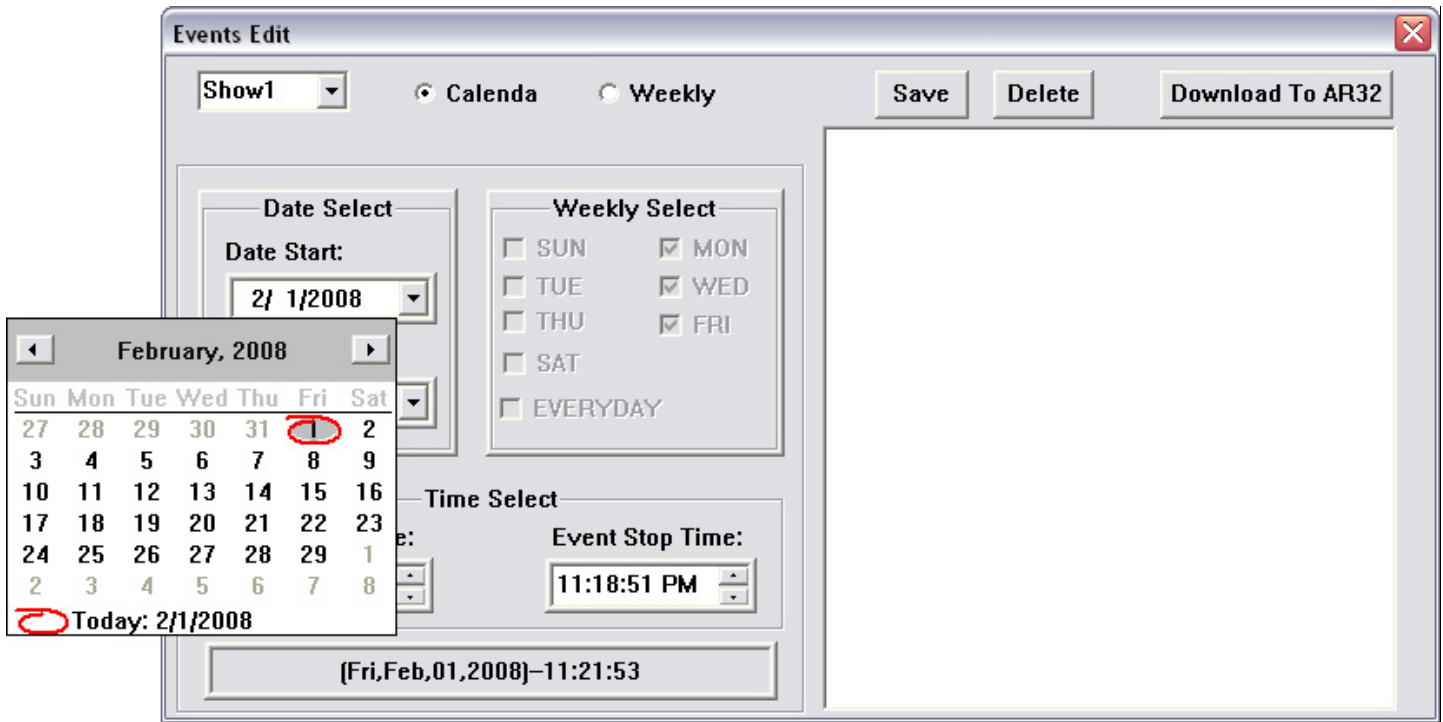

Figure 28
1. Select a Date Start and Date Stop from the Date Select area (Figure 28).